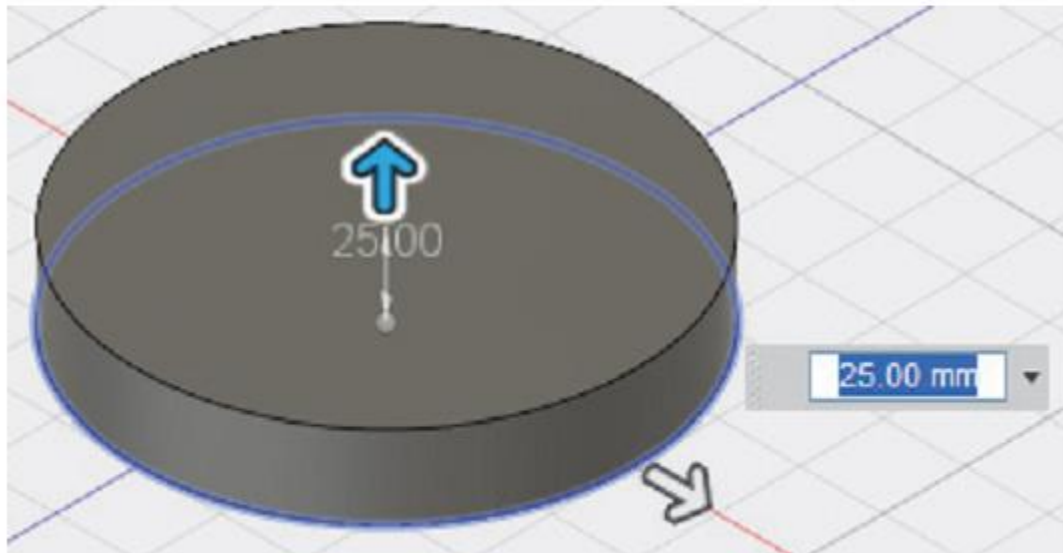

Figure 2–10
5. Click in the XZ plane to confirm the sketch. The cylinder is automatically given a third dimension, similar to that shown in Figure 2–10. Two manipulator arrows display surrounding the shape and the CYLINDER palette opens.